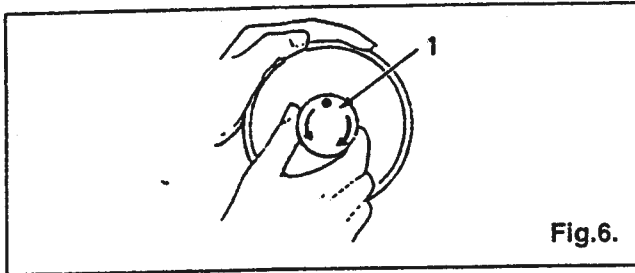

Fig.6.
1. Stop motion needle by loosening stop-motion screw (1), Fig.6. Hold hand wheel with left hand and turn stop-motion screw toward you with right hand.